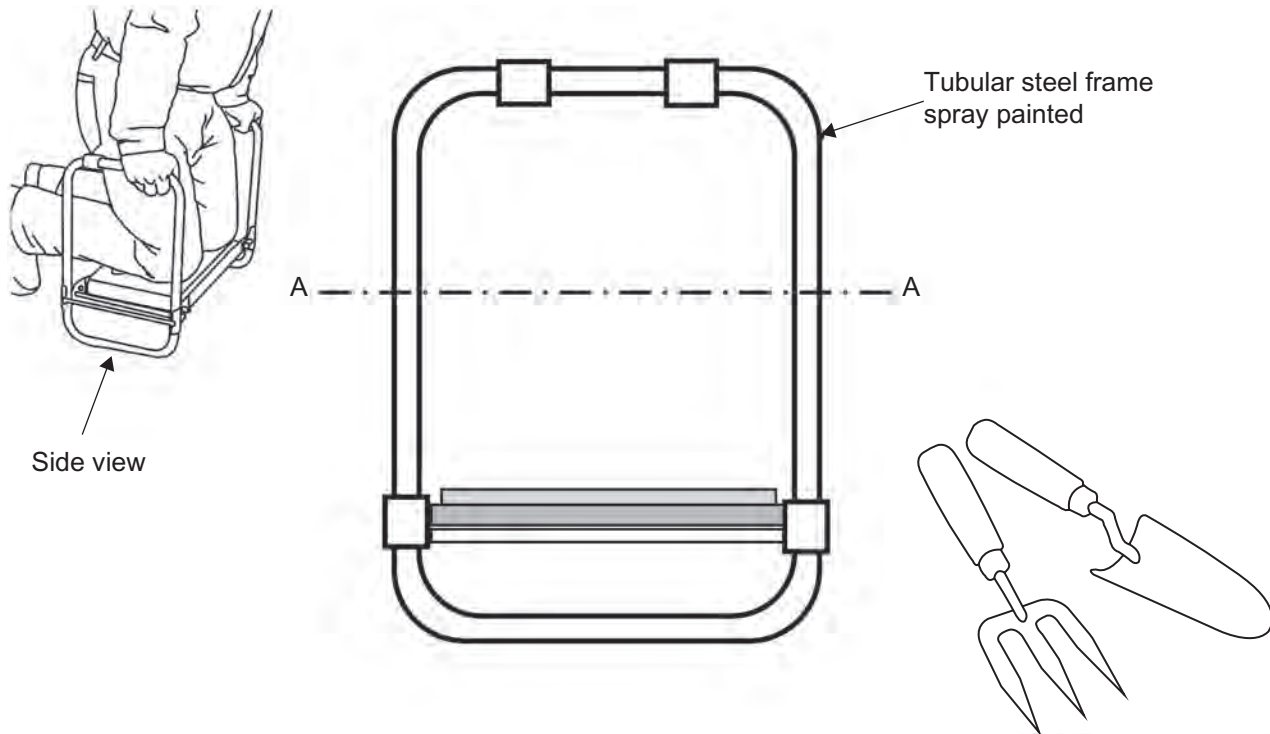

Fig. 6(g)
- (f) CAD, CAM and other ICT systems are widely used in the design and manufacture of many products including the garden kneeler shown in **Fig. 6**.
Explain the use of **two** other ICT systems which could be used in the design and manufacture of the garden kneeler shown in **Fig. 6** (no reference should be made to CAD or CAM systems in your answer). [4]
(g) Fig. 6(g) below shows side views of the garden kneeler. In addition, two commonly used garden tools are also shown which will need to be located on a rack which can be quickly attached to the tubular steel frame and positioned for easy access during gardening work.
- (i) With reference to Fig. 6(g) above and using the blank A3 pro forma provided (answer numbers 6(g)(i) and (ii)) produce annotated sketches of a suitable design that will enable the user to quickly adjust the height of the tubular steel frame (at the position shown in Fig. 6(g) (A–A)) in order to provide a more comfortable height. Show how your design prevents damage to the paintwork as the frame moves up or down. [4]
- (ii) With reference to Fig. 6(g) above and using the blank A3 pro forma provided (answer numbers 6(g)(i) and (ii)), produce annotated sketches of a suitable storage rack containing the two garden tools secured to the tubular steel frame of the garden kneeler. Show how your design fulfils the following requirements: